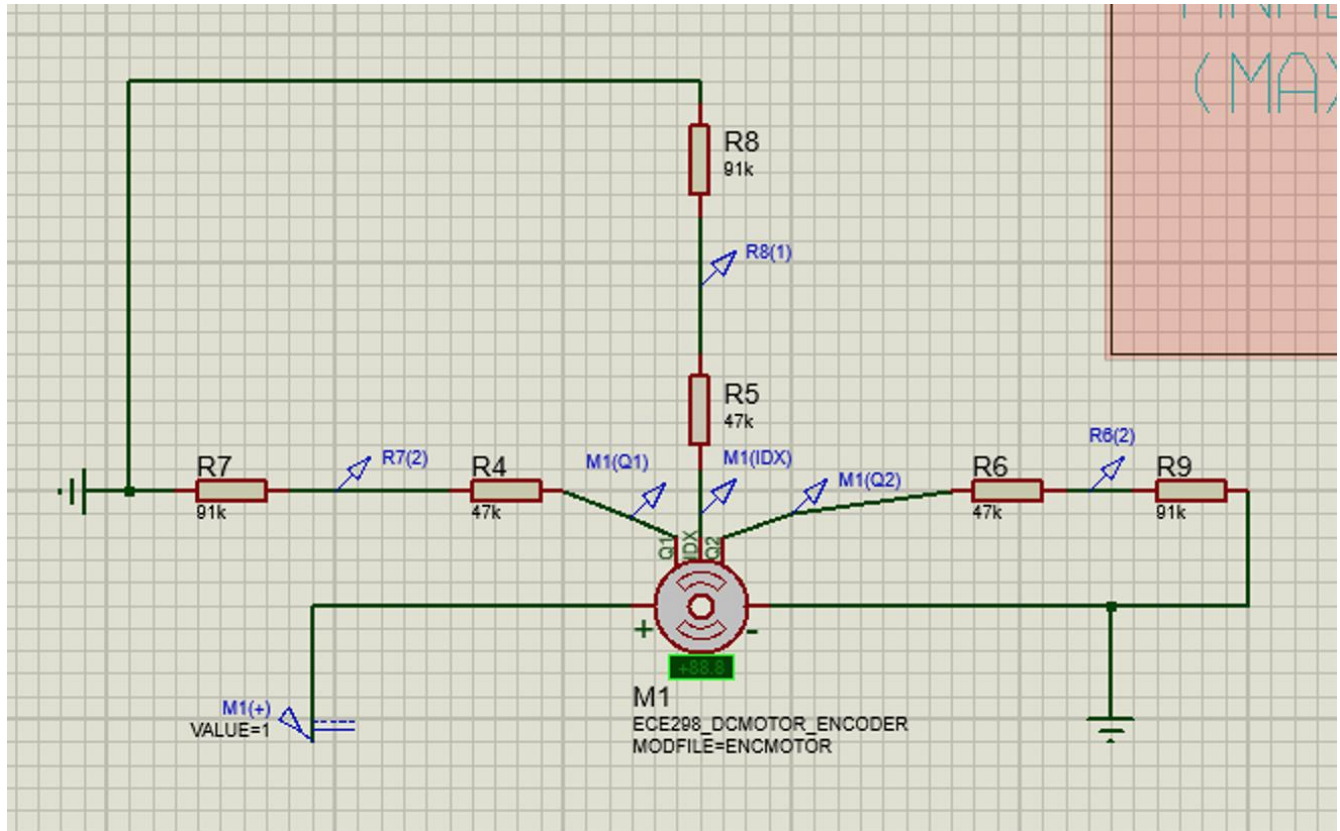

Fig. 18: DC Motor Encoder Interface Circuit
Figure 18 shows the schematic for testing the DC motor encoder. The probes labelled R7(2), R8(1), and R6(2) represents the input pins into the MCU. Since the max voltage of the output from the encoder is greater than what is accepted into the MCU, three voltage dividers will be needed to reduce the signal. A generic 1V DC generator is inputted into the motor to run it, since the encoder depends on the motor to work.